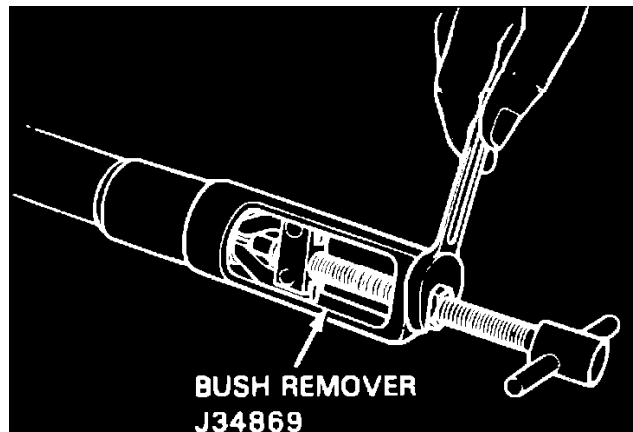

Fig. 7 Removing rack bushing
3. Remove bushing from rack housing using tool J-34869 or equivalent, **Fig. 7**.